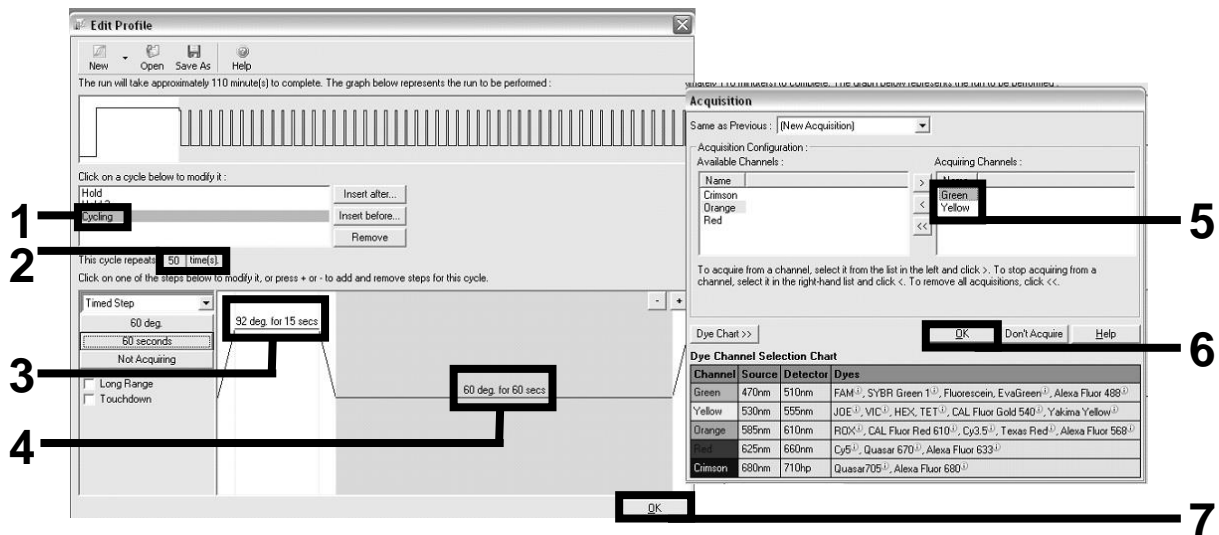

Figure 5. Amplification of the DNA.
Amplification of the DNA	Figure 5
13. Click the “Edit Profile” button in the next “New Run Wizard” dialog box, and program the temperature profile as shown in Table 4 and Figure 5. Be sure to add the last acquiring step at 60°C, at each cycle, for both channels Green (FAM) and Yellow (VIC).